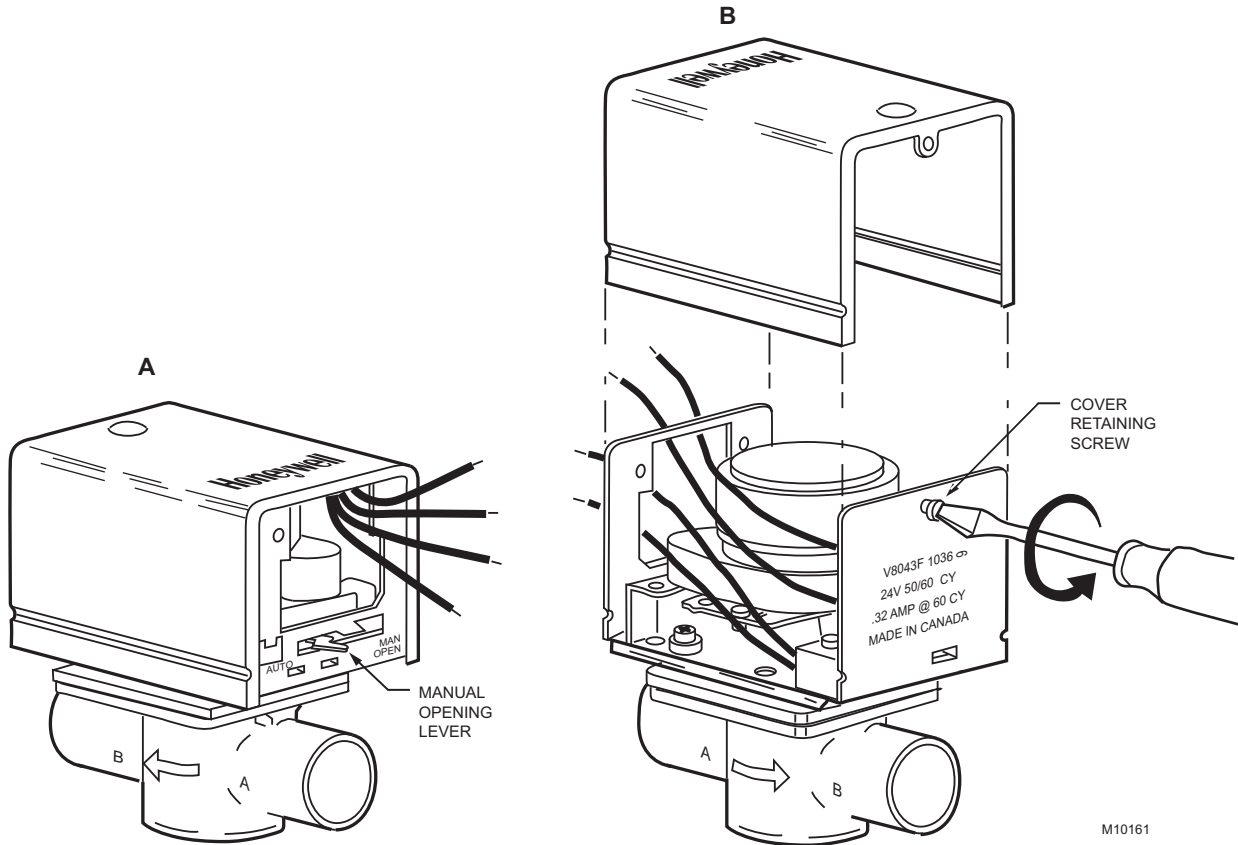

Fig. 13. Remove old powerhead from systems using new style valve bodies.
3. Remove the old powerhead (see Fig. 13):